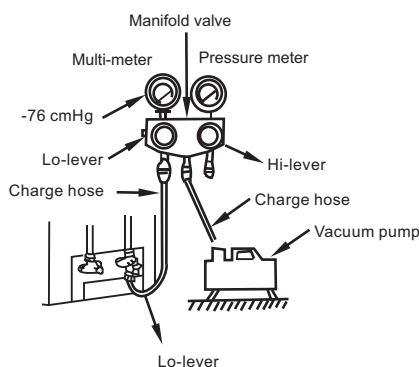

Fig.7-4
- Expel the air with a vacuum pump (Refer to Fig.7-4) (Please refer to its manual for the way of using manifold valve)